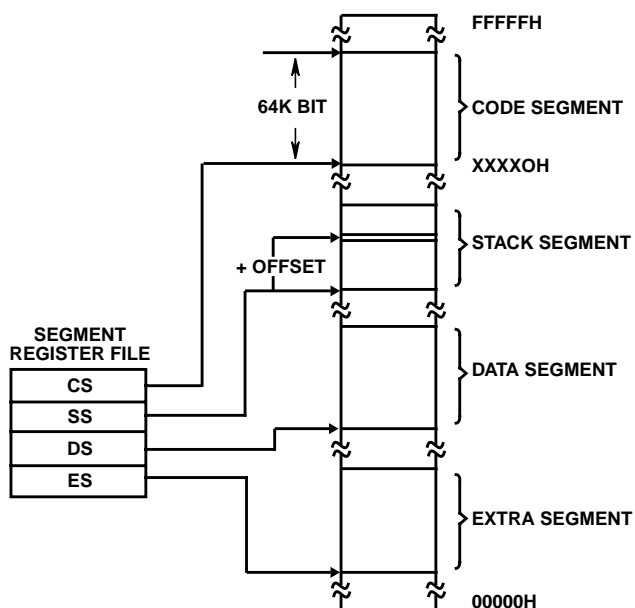

FIGURE 1. HS-80C86RH MEMORY ORGANIZATION
The processor provides a 20-bit address to memory, which locates the byte being referenced. The memory is organized as a linear array of up to 1 million bytes, addressed as 00000(H) to FFFFF(H). The memory is logically divided into code, data, extra and stack segments of up to 64K bytes each, with each segment falling on 16 byte boundaries. (See Figure 1).